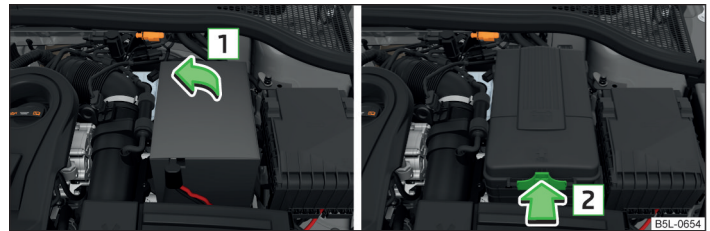

Fig. 163 Engine compartment: Polyester cover of the vehicle battery/plastic cover of the vehicle battery
The battery is located in the engine compartment in a polyester cover or in a plastic cover » Fig. 163.
- Open the battery cover in the direction of the arrow **1** or press the interlock on the side of the battery cover in the direction of the arrow **2** » Fig. 163, fold the cover up and remove.